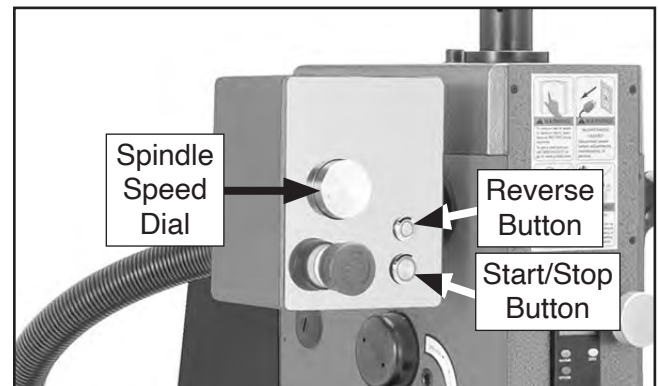

Figure 27. Spindle control panel (G0982 shown).
2. Press Start/Stop button (see **Figure 27**) to start spindle rotation.
4. Press Reverse button (see **Figure 27**) and allow spindle to run counterclockwise (as viewed from above) at about 100 RPM for another 10 minutes.
5. Use spindle speed dial (see **Figure 27**) to adjust spindle to about 200 RPM, then run spindle in either direction for 10 minutes.